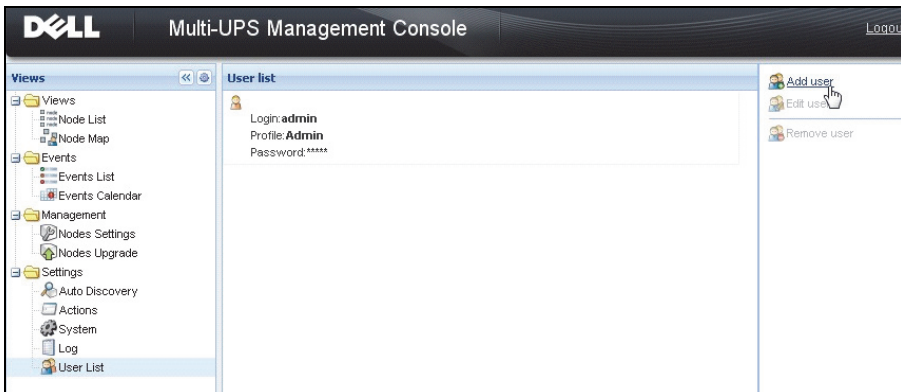

Figure 11. User List Page
- 2 Select **Settings > User List**. The User List page is displayed (see Figure 11).